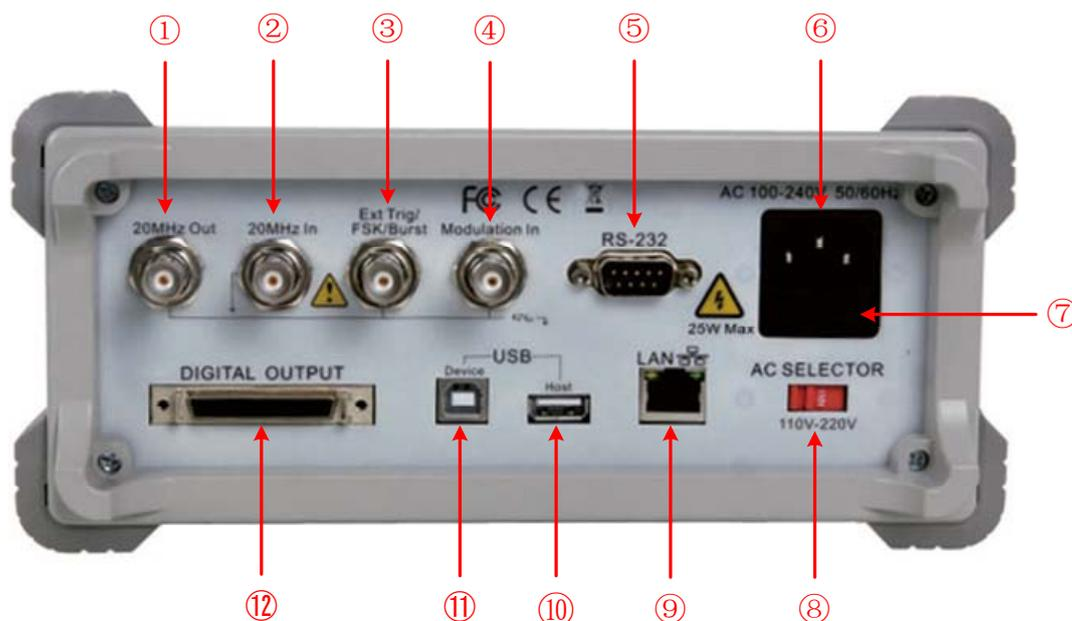

Figure 4-2 Rear panel overview (take AG4151 for instance)
AG Series adopt 110V/220V AC power source. Users should regulate the voltage scale of the **Power Switch** according to the standards in their own country (see Figure 4-2) at the rear panel and use an appropriate fuse.
- (1) Turn off the power button at the front panel and remove the power cord.
- (2) Check if the fuse installed before leaving factory (250 V, F2AL) can match with the selected voltage scale; if not, pry the cover open using a straight screwdriver (see ⑦ in Figure 4-2), change the fuse.
- (3) Regulate the **Power Switch** to the desired voltage scale.